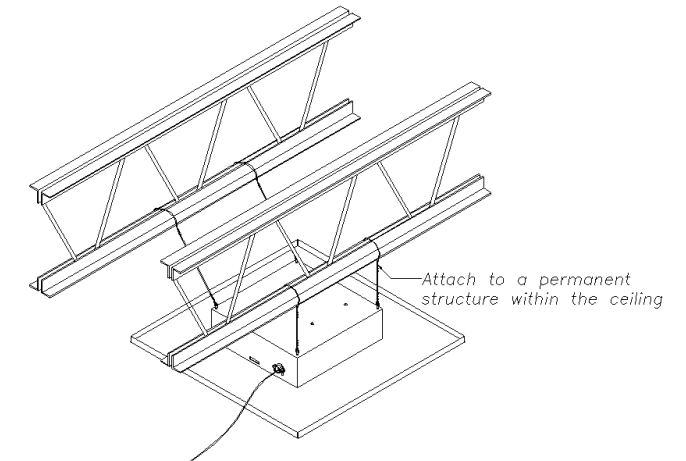

Figure 4
Step 3 – Use minimum 12-gauge support wire (included) to support the backbox independently of the ceiling grid. Attach one end of the wire to the support wire tabs located along the edge of the back box and the other end to a permanent supporting structure within the ceiling such as a ceiling joist (Ref. Figure 4).